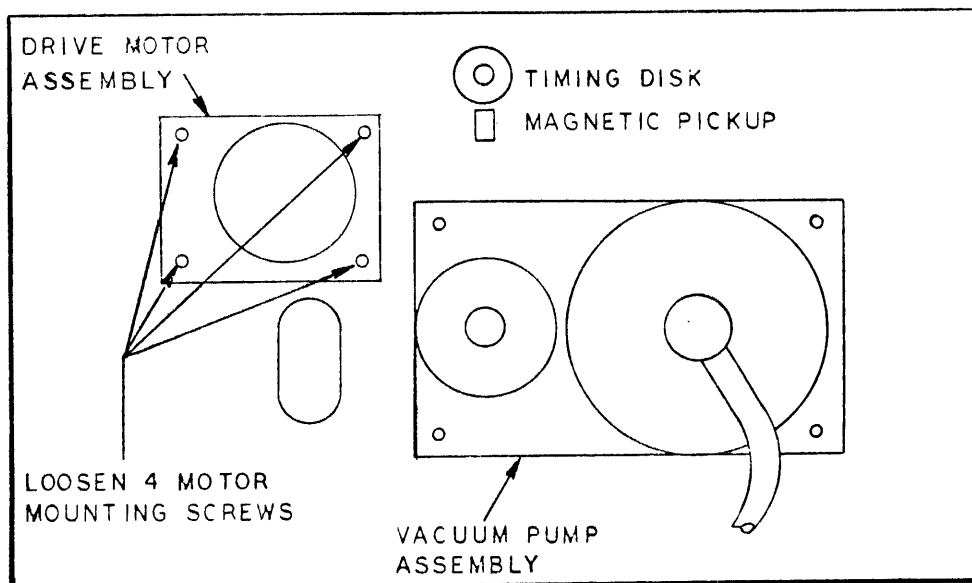

Figure 6-3. Drive Motor, Magnetic Pickup, and Vacuum Pump, Top Plate Assembly
- a. Using a 9/64 Allen wrench, LOOSEN the four motor mounting plate screws, figure 6-3.
The magnetic pickup is adjusted to ensure that the timing pulses are developed correctly. There are two adjustments to the magnetic pickup. They are horizontal alignment and air gap. Refer to figures 6-3 and 6-4. Remove the shroud per paragraph 6.1.2.